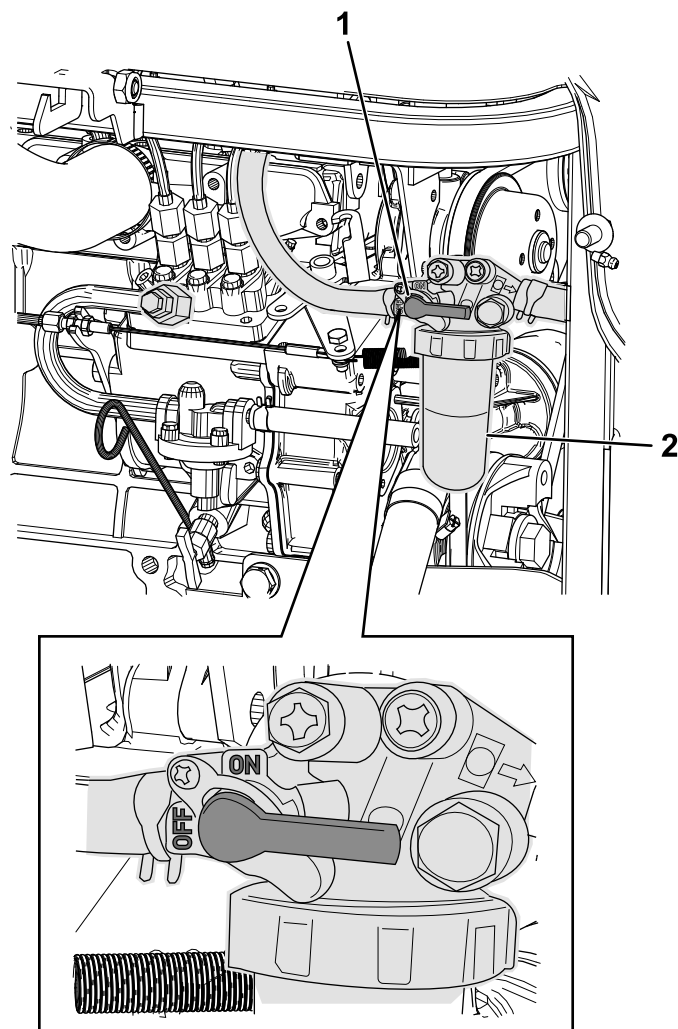

Figure 59
1. Clean the area around the fuel-filter (Figure 59).
2. Rotate the fuel filter lever to the OFF position (Figure 59).
3. Remove the filter and clean the filter-mounting surface (Figure 59).